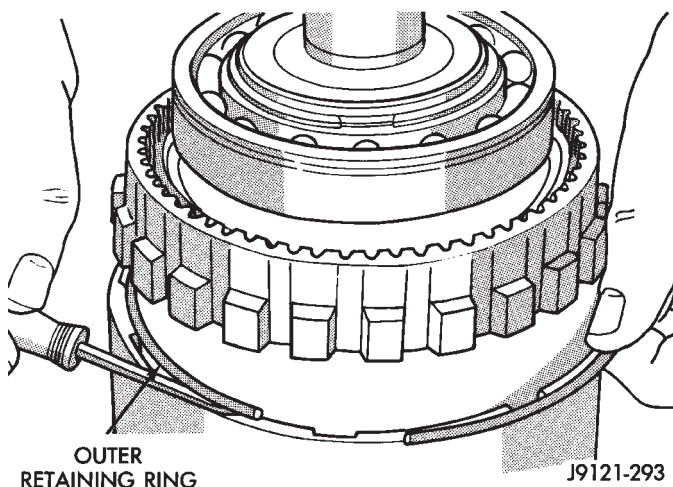

Fig. 328 Clutch Drum And Outer Retaining Ring Installation
(6) Align and install clutch drum on annulus gear (Fig. 328). Be sure drum is engaged in annulus gear lugs.
(7) Install clutch drum outer retaining ring (Fig. 328).